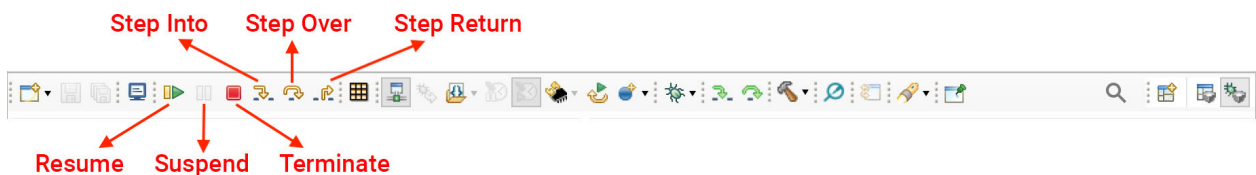

Figure 12: Target Execution toolbar.
- While in the debug mode, press the Resume button on the Target Execution toolbar (Figure 12), Both the LEDs on the board will start blinking. The Suspend button will suspend the execution of the code at current step.
- Basic debugging functionality is provided by the Target Execution toolbar (Figure 12):